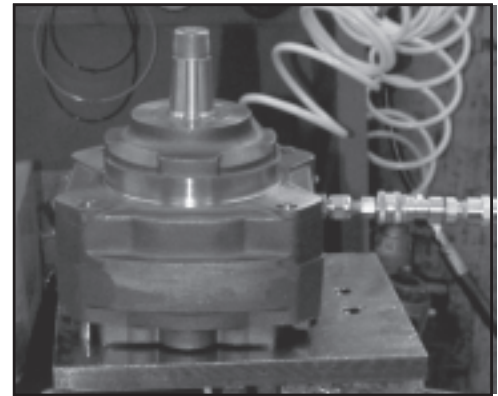

Figure A16
13. Pressurize brake release port with 350 psig to release brake. Install shaft from bottom side of brake housing assembly. (Note: shaft must pass through all spines of friction discs and then push into the shaft seal.) Lightly tap with a rubber hammer to seat shaft. SEE FIGURES A16 & A17